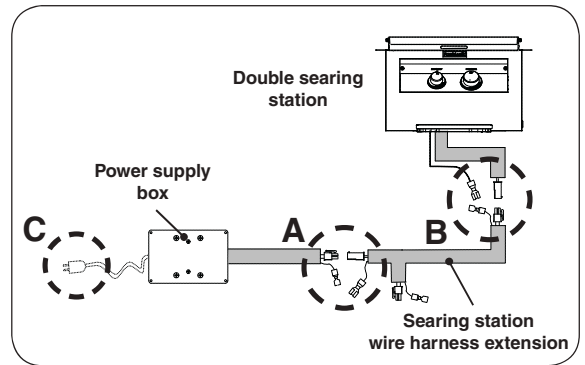

Fig. 17-1 Connect searing station to power supply
3. Connect the power supply box connectors to the searing station wire harness extension, as shown in Fig. 17-1, **A** (molex and ground wire connections).
4. Connect the searing station wire harness extension to the searing station, as shown in Fig. 17-1, **B** (molex and ground wire connections).
5. Connect the cord coming from the power supply box to a **120VAC (15 AMP minimum) GFCI GROUNDED 3-wire receptacle**. See Fig. 17-1, **C** and Fig. 17-2.